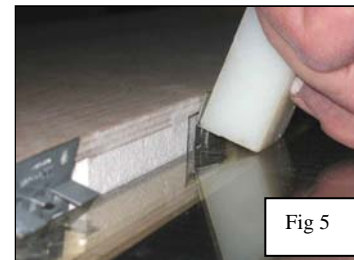

Fig 6
- Secure the second part of the clip to the cutout using two additional 1-9/16" nails. These nails should extend through the overlapping holes in both halves of the clips (Fig 6).